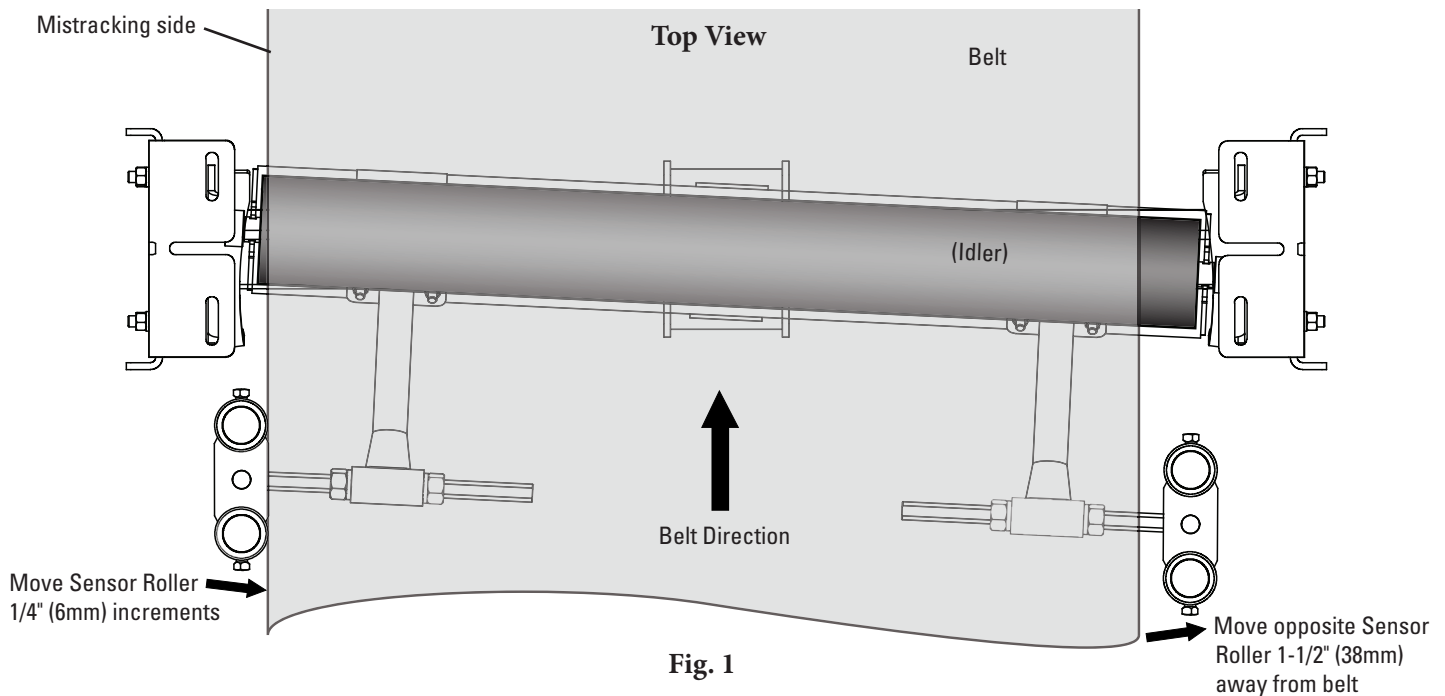
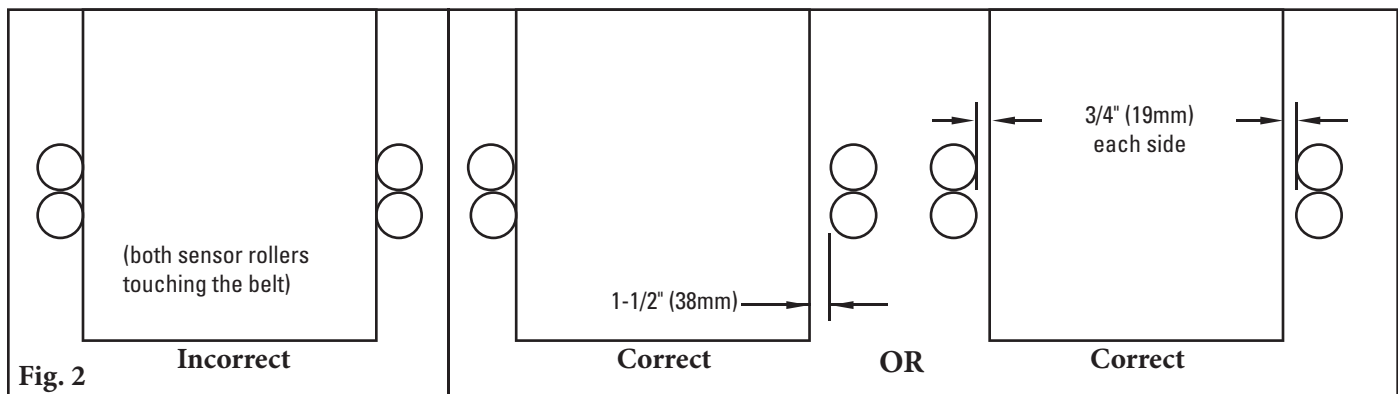

Fig. 1
Fig. 2
2. **Ensure idlers are secured in the unit.** Do not remove plastic ties from idlers yet. Failure to ensure the idlers are secure may result in serious injury if an idler falls out (Fig. 1).
3. **Adjust/telescope extending brackets to match width of structure.** The PT Max will arrive with a measurement from CEMA standards (belt width +9"/225mm). After measuring the structure, slide extending bracket horizontally until mounting brackets are in line with your structure width. A square head set screw on the inside of the base frame is provided to tighten extending bracket. Ensure mainframe is centered within 1/8" (3mm) on the extending brackets (equal length of extenders showing on both sides (Fig. 2). Please note the minimum/maximum extension below.
- If belt is still mistracking too far to one side, bring that sensor roller in toward the center. Make adjustments of 1/4" (6mm) at a time (**Fig. 1**). Do not pinch the belt between the sensor rollers - sensor rollers overall should be 1-1/2" (38mm) wider than the belt (**Fig. 2**).